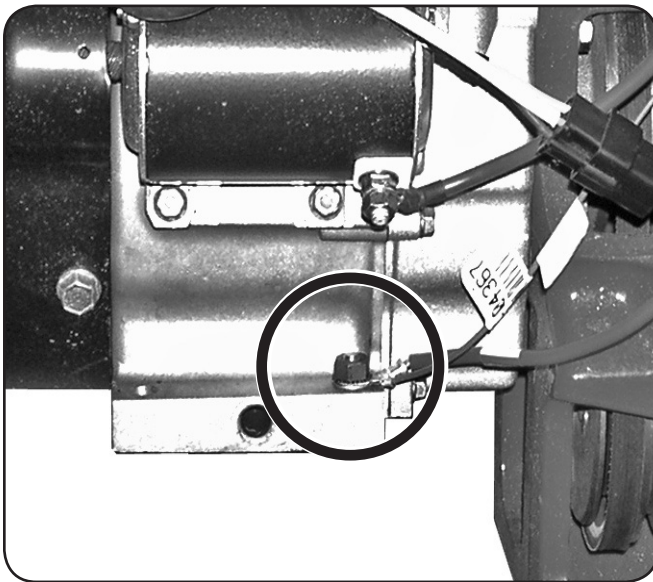

Figure 3-3
1. Ground the green (and red for electric start tillers) wire(s) to the engine block. See Figure 3-3.